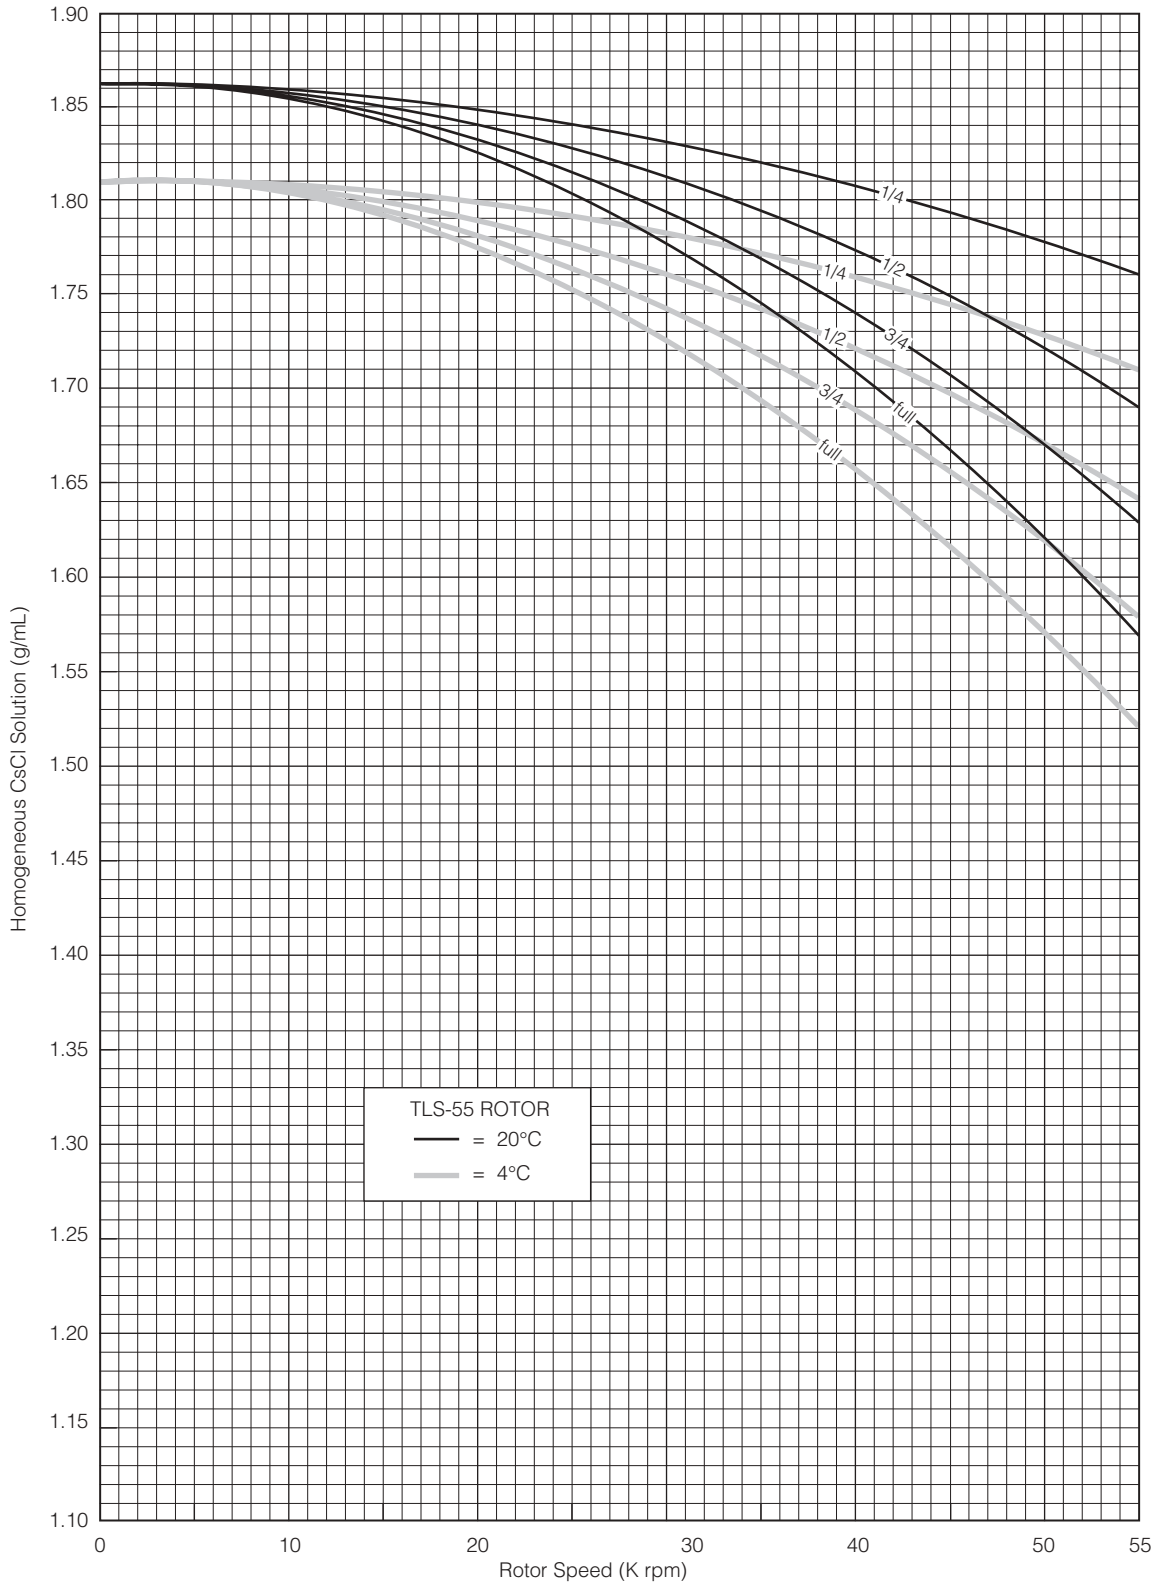

Figure 1. Precipitation Curves for the TLS-55 Rotor.
2. *Further speed limits must be imposed* when CsCl or other self-forming-gradient salts are centrifuged, as equation (6) does not predict concentration limits/speeds that are required to avoid precipitation of salt crystals. Solid CsCl has a density of 4 g/mL, and if precipitated during centrifugation may cause rotor failure. Figures 1 and 2, together with the description and examples below, show how to reduce run speeds when using CsCl gradients.
Rotor speed is used to control the slope of a CsCl density gradient, and must be limited so that CsCl precipitation is avoided. Speed and density combinations that intersect on or below the curves in Figure 1 ensure that CsCl will not precipitate during centrifugation in the TLS-55 rotor. Curves are provided at two temperatures: 20°C (black curves) and 4°C (gray curves). Curves in Figures 1 and 2 are provided up to the maximum rated speed of the rotor.
The curves in Figures 1 and 2 are for solutions of CsCl salt dissolved in distilled water only. If other salts are present in significant concentrations, the overall CsCl concentration may need to be reduced.
Figure 2. CsCl Gradients at Equilibrium for the TLS-55 Rotor. Centrifugation of homogeneous CsCl solutions at the maximum allowable speeds (from Figure 1) results in gradients presented here.
Figures 1 and 2 show that several fill volumes are possible in a tube. If a thinwall tube is partially filled with gradient solution, float mineral oil (or some other low-density, immiscible liquid) on top of the tube contents to fill the tube to its maximum volume. (Do not use an oil overlay in Ultra-Clear tubes.) Note that for a given CsCl density, as the fill level decreases the maximum allowable speed increases. Partial filling may be desirable when there is little sample or when you wish to shorten the run time.
For example, a *half-filled* tube of 1.62-g/mL homogeneous CsCl solution at 4°C may be centrifuged at 55 000 rpm (see Figure 1). The segment of the 55 000-rpm curve (Figure 2) from the half-filled line to the tube bottom represents this gradient. The same solution in a *three-quarter-filled* tube may be centrifuged no faster than 50 000 rpm. A tube *full* of the 1.62-g/mL CsCl solution may be centrifuged no faster than 44 000 rpm (curves not shown in the figure may be interpolated).
1. In Figure 1, find the curve that corresponds to the desired run temperature (20°C) and fill volume (full). The maximum allowable rotor speed is determined from the point where this curve intersects the homogeneous CsCl density (50 000 rpm).
4. From Figure 1, select the maximum homogeneous CsCl density that corresponds to the temperature and run speed established above. These parameters will provide the particle-banding pattern selected in Step 2.